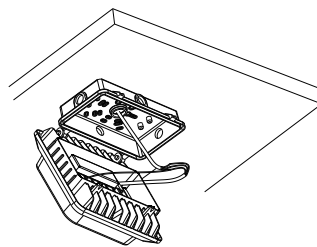

Figure 2-6
6. Connect the input line and ground. If the fixture is equipped with sensor, adjust the sensor settings. Take relevant waterproof measures after the wires are connected. Fig. 2-6